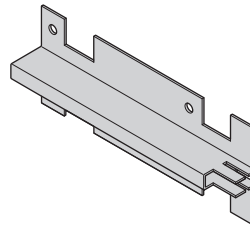

FIG V9: Joint Spacer (Vertical Layout only)
8. A joint spacer supplied by AFC, (FIG. V9) must be placed at all horizontal joint locations before the Slats are attached. These are installed at the same time as installing the profile. Four screws per joint spacer. (See joint spacer install on page 8)